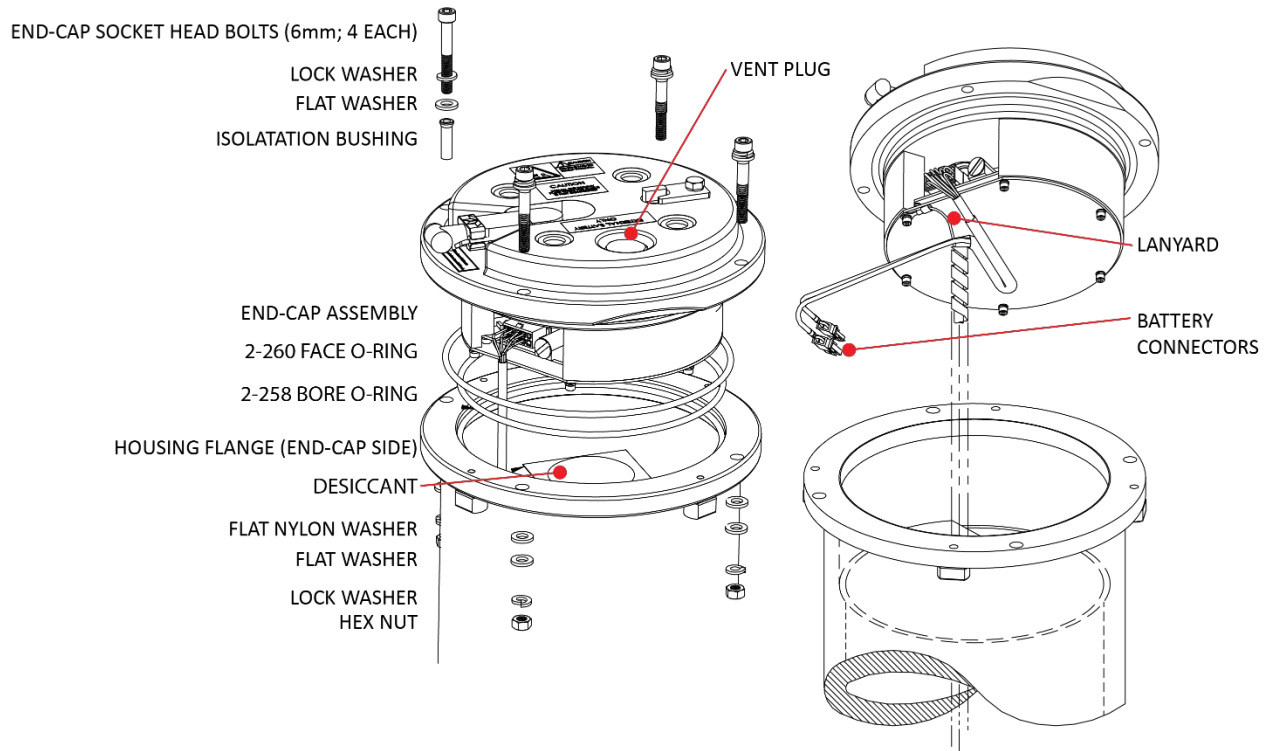

Figure 35. End-Cap Mounting Hardware
7. Examine the end-cap assembly nuts, bolts, and washers (6 mm) for corrosion; replace if necessary. Figure 35, page 70 shows the assembly order of the end-cap mounting hardware. *All* the hardware items are needed to seal the Long Ranger / QuarterMaster properly.